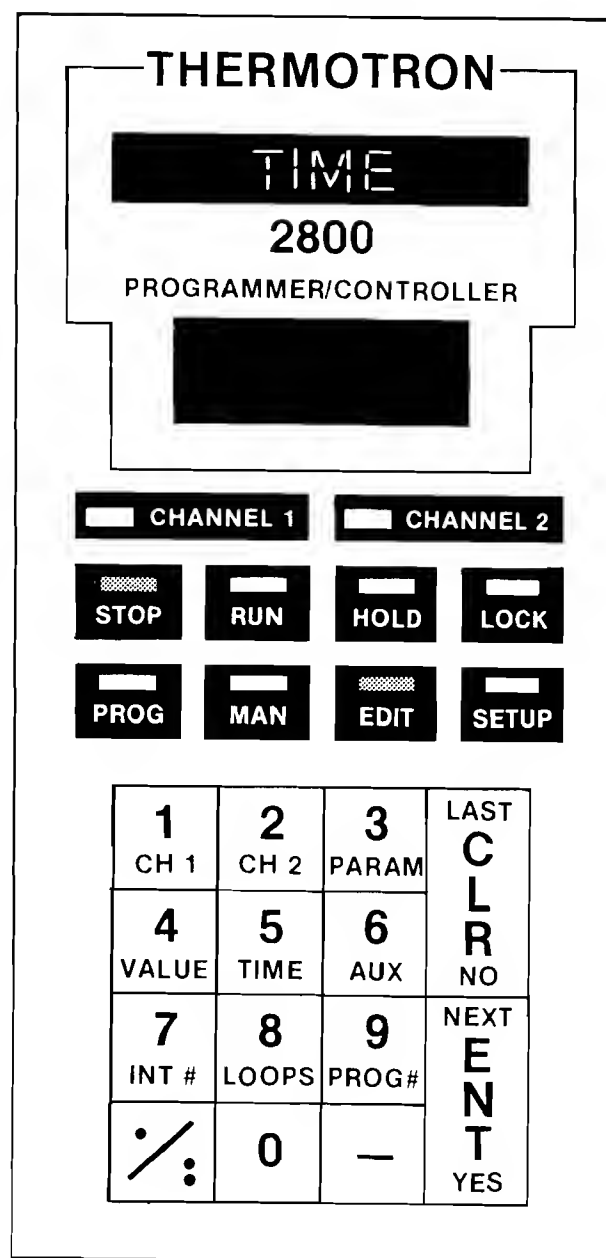

FIGURE 15
1. Press the numeric key 5. Press either the **CLR** (LAST) or the **ENT** (NEXT) key. The alpha display shows TIME. See Figure 15.